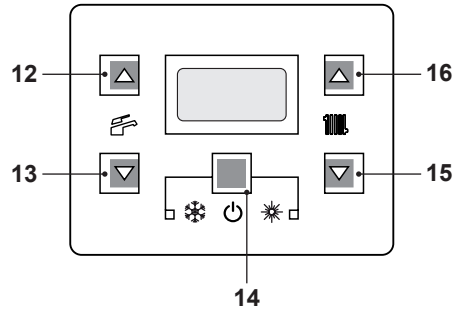
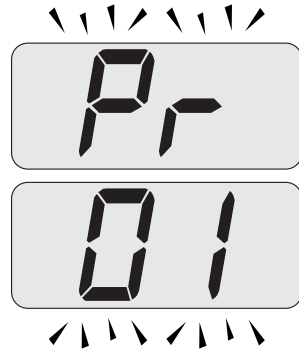
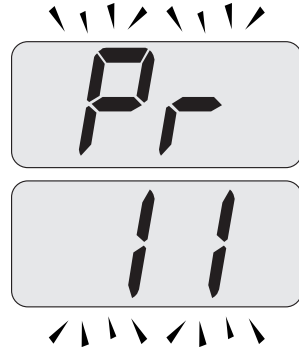

Fig. 7.27
Fig. 7.28
Fig. 7.29
- Enter in "programming mode" by pressing keys 14 - 15 - 16 (Fig. 7.27) for 10 seconds at the same time until the letters **Pr** that alternate with code **01** are displayed on the LCD display, indicating that "parameter 01" (Fig. 7.28) has been activated.
- Scroll the various parameters using keys 15 or 16 until the letters **Pr** that alternate with code **11** are displayed on the LCD display, indicating that "parameter 11" (Fig. 7.29) has been activated.
- Press keys 14 and 16 (Fig. 7.27) at the
- By pressing key 14 (Fig. 7.27) confirmation of the inserted value is obtained.
- Press keys 14 and 15 (Fig. 7.27) at the same time to exit without changing the value (return to the parameters list Fig. 7.29).
- Press keys 14 - 15 - 16 (Fig. 7.27) at the same time for 10 seconds to exit the "programming mode".